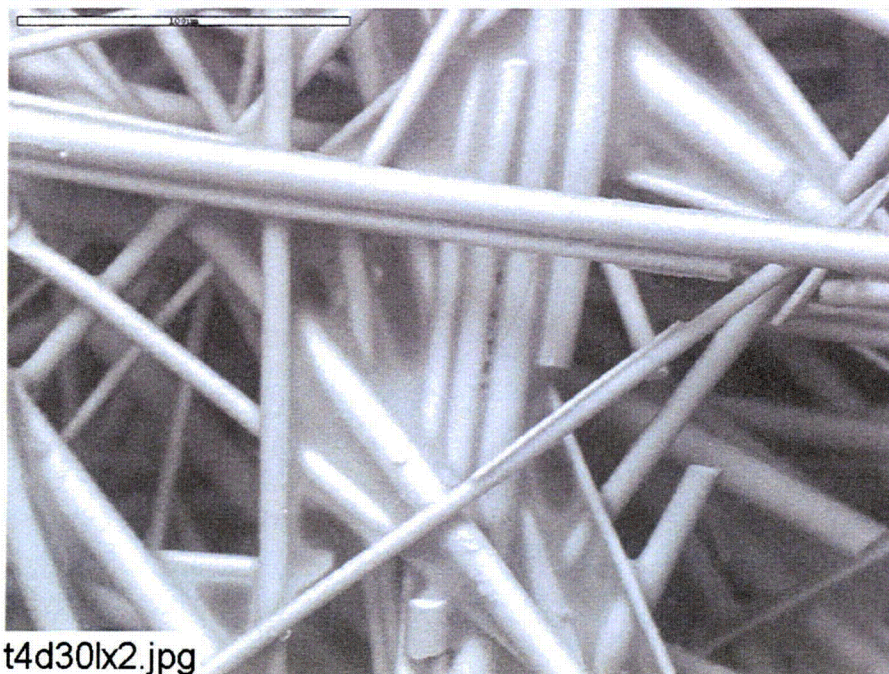

Figure C1-2. Environmental SEM image magnified 500 times for a Test #4, Day-30 exterior low-flow fiberglass sample. (t4d30lx2.jpg)
- Figure C1-2. Environmental SEM image magnified 500 times for a Test #4, Day-30 exterior low-flow fiberglass sample. (t4d30lx2.jpg)..... C1-4